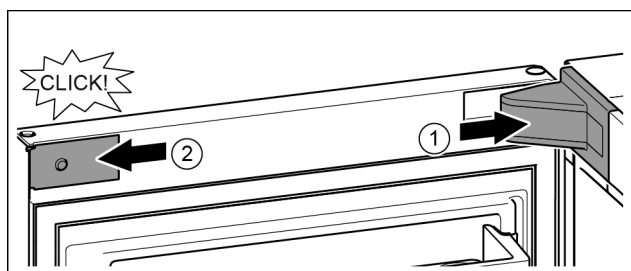

Fig. 24
- Position the bearing bracket and engage. If necessary push apart carefully. Fig. 24 (1)
- Position the panel on the side and click into place. Fig. 24 (2)